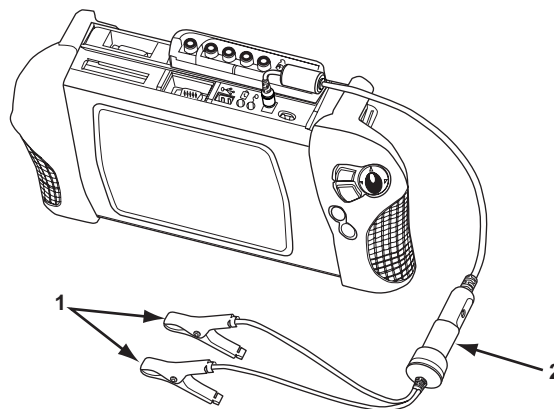

Figure 3-3 Sample auxiliary power cables connected
2. Plug the other end of the Lighter Power Cable into the cigarette lighter or the Battery Power Cable receiver (Figure 3-3).